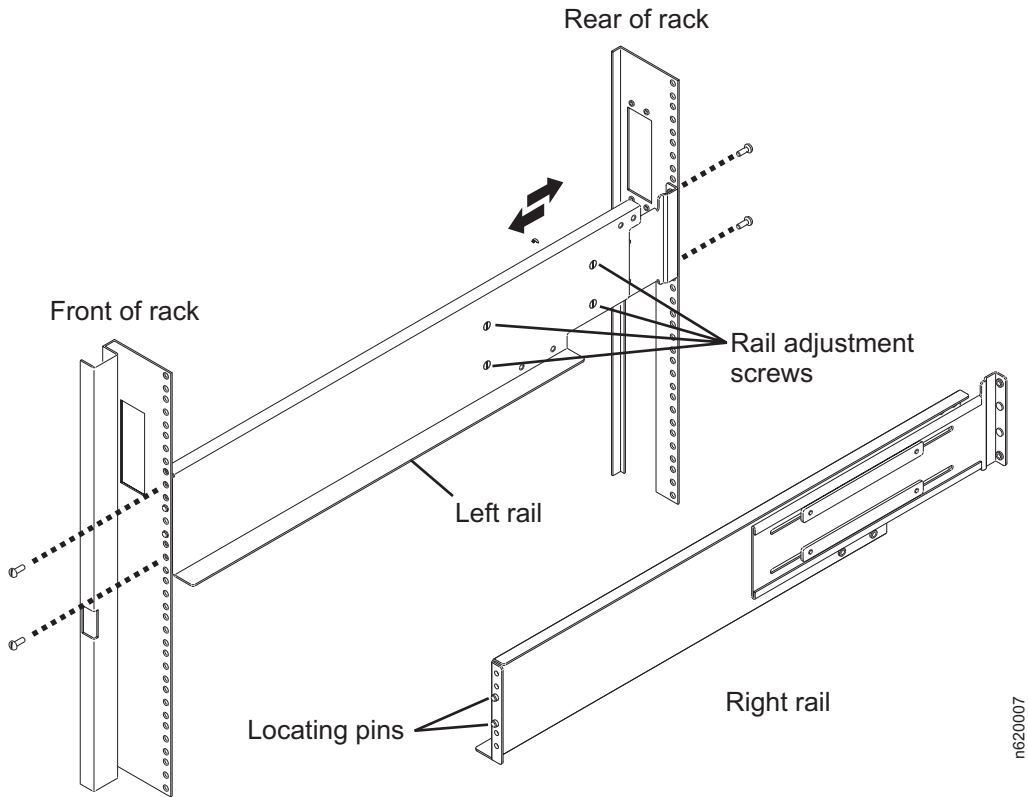

Figure 3. Installing the rails in the rack
1. Loosen (but do not remove) the four rail adjustment screws on each rail, as shown in Figure 3 on page 2.